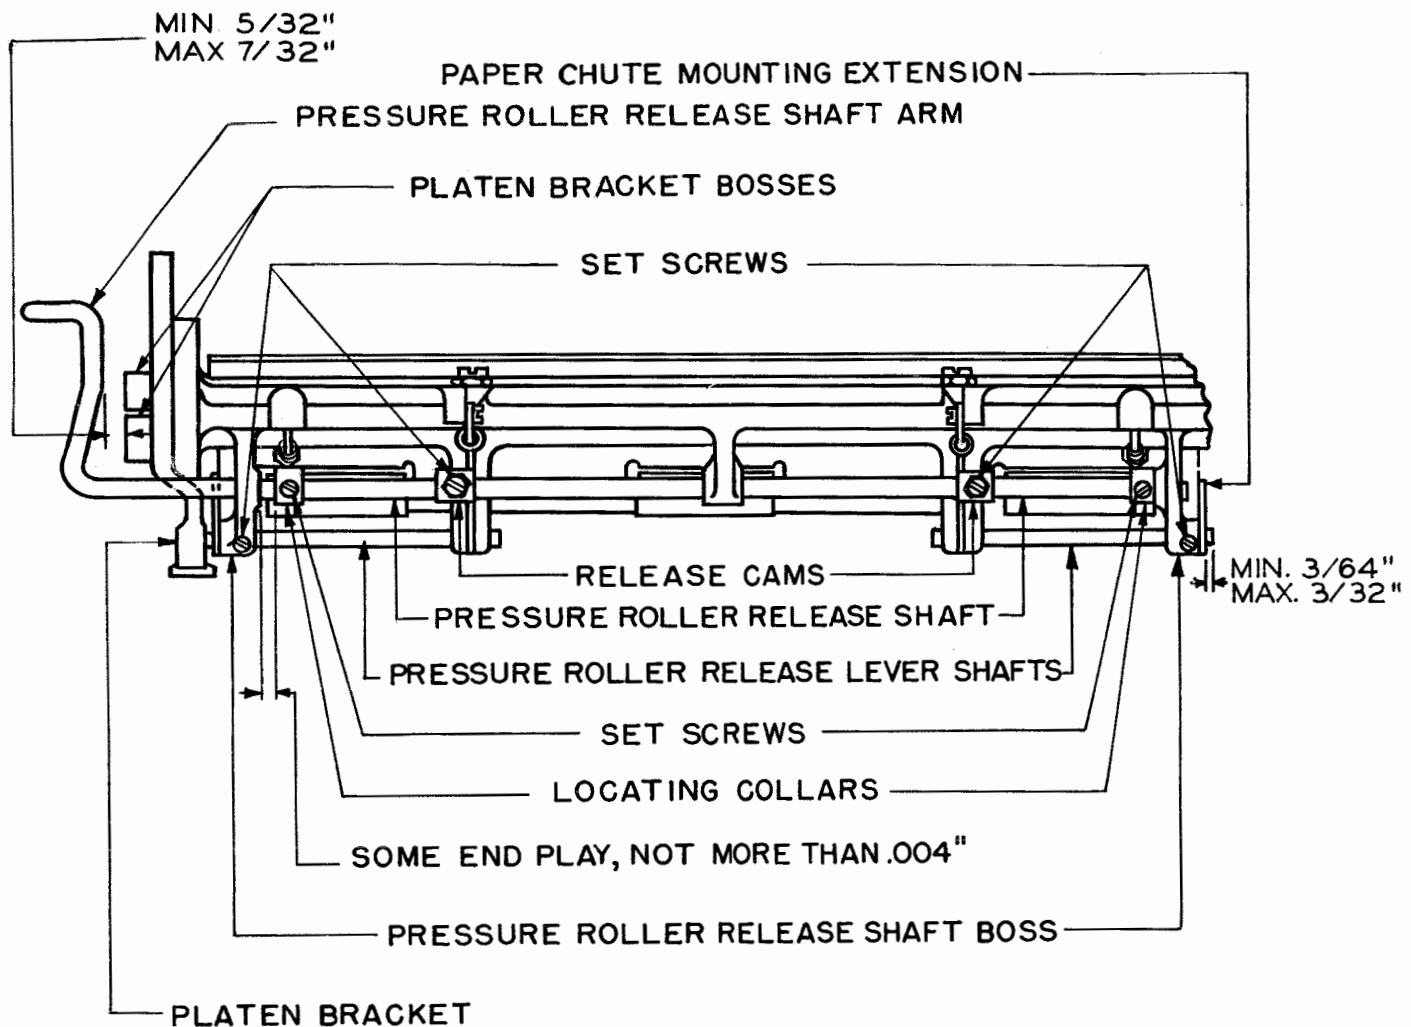

Figure 36
platen-shaft boss by minimum 5/32 inch, maximum 7/32 inch when the right pressure-roller release-shaft collar is against the casting and the arm is opposite the boss. Gauge by eye. See Figure 36.
2.78 Pressure-roller Release Shaft should have endplay not to exceed 0.004 inch. Gauge by feel. Check 2.79. See Figure 36.
To Adjust: Position the cams on the release shaft by means of their set screws. See Figure 36.
bosses of the two release-lever shafts. The outer end of the right release-lever shaft should project beyond the outer surface of the right paper-chute extension by minimum $3/64$ inch, maximum $3/32$ inch. See Figure 36.